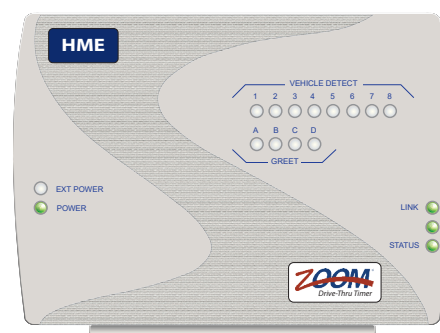

Fig. 1.1
- **Timer Signal Processor (TSP):** This device receives and sorts lane event data from the peripheral detectors, and sends it to the Control Unit for processing. This device is abbreviated throughout this guide as TSP. (Fig. 1.1.)